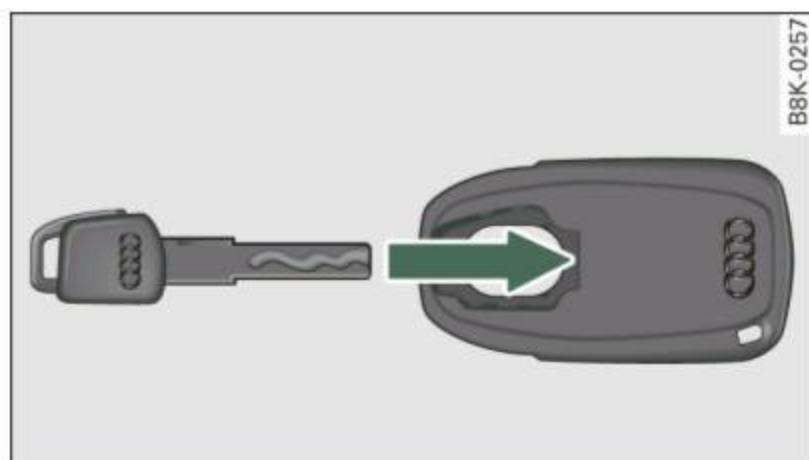

Fig. 32 Insert emergency key into the adapter
- Push the emergency key ⇒ fig. 32 fully into the adapter. Make sure that the Audi rings are facing up.